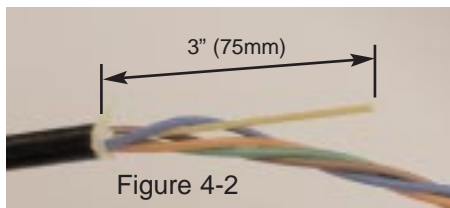

Figure 4-2
**4.02** Expose central strength member and cut 3" (75mm) from cable sheath butt. (Figure 4-2)